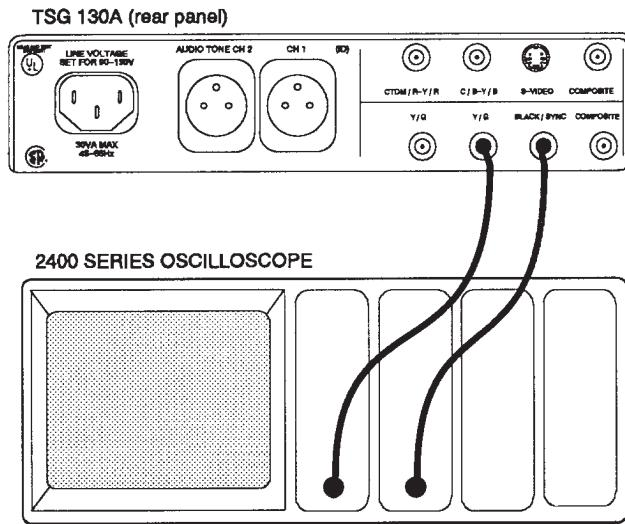

Figure 5–8: Setup to check Option pulse outputs
- Connect the equipment as shown in Figure 5–8.